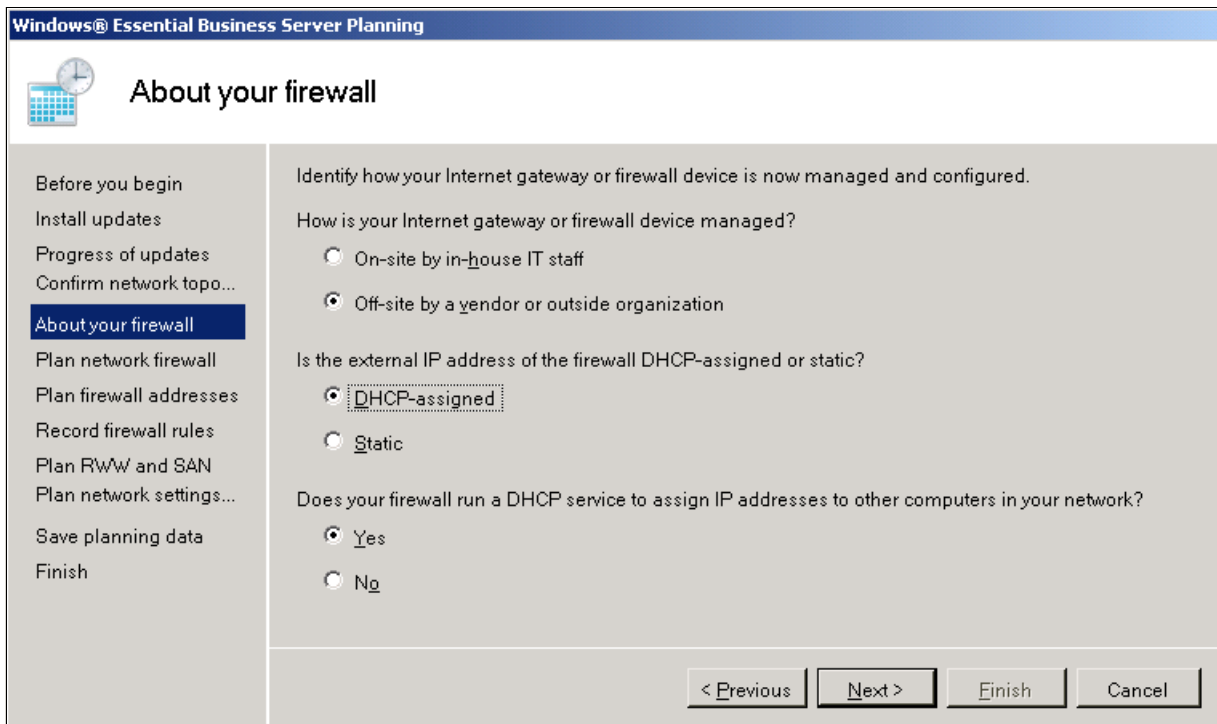

Figure 3-11 Firewall identification
3. Identify the firewall setup on the “About your firewall” panel (Figure 3-11). Protection for your current network may already be provided by a dedicated hardware-based firewall device or a software-based solution. In our example, we accepted the defaults. Click **Next**.